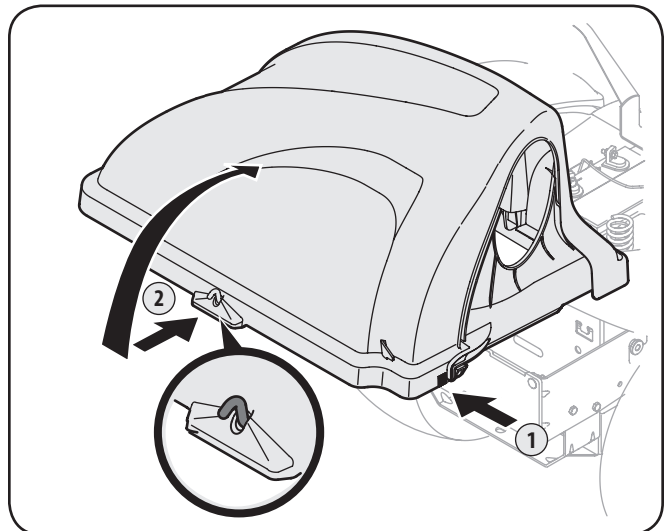

Figure 4-16
6. Open bagger cover by pushing in on the rear, right-side tab with your right hand, as shown in (1) of Figure 4-16, and lifting the cover with your left hand in the center rear of the bagger cover, (2).